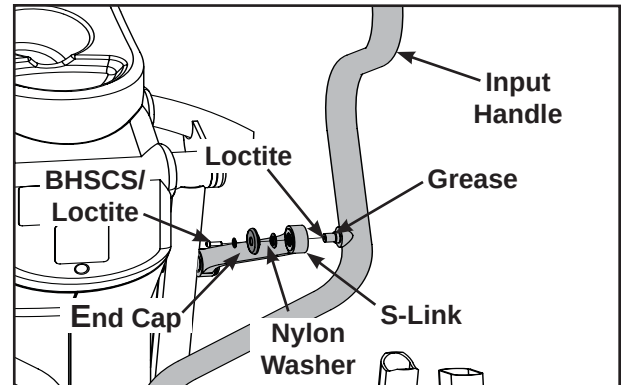

Figure 2
- C. Using a 5/32" Allen wrench, remove the BHSCS (Button Head Socket Cap Screw), end cap and nylon washer securing the S-link to the input handle. See Figure 2.